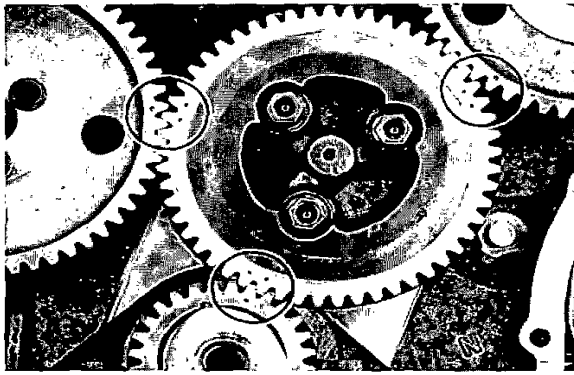

Fig. 88. Auxiliary drive gears, basic setting
3. Rotate the engine until No. 1 piston is at T.D.C. after the compression stroke ( $0^\circ$  on the flywheel). Check that the markings on the auxiliary gear drive coincide (fig. 88).